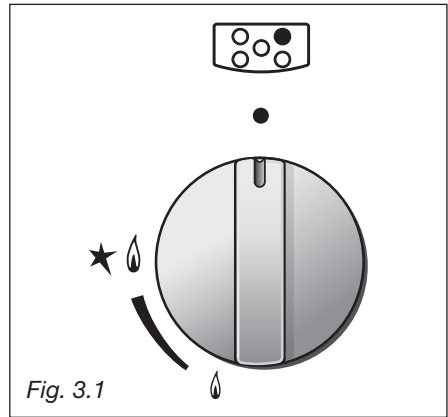

Fig. 3.1
- 1) Lightly press and turn the knob anti-clockwise (fig. 3.2), and position the knob indicator to the symbol ★ printed on the control panel (fig. 3.1).